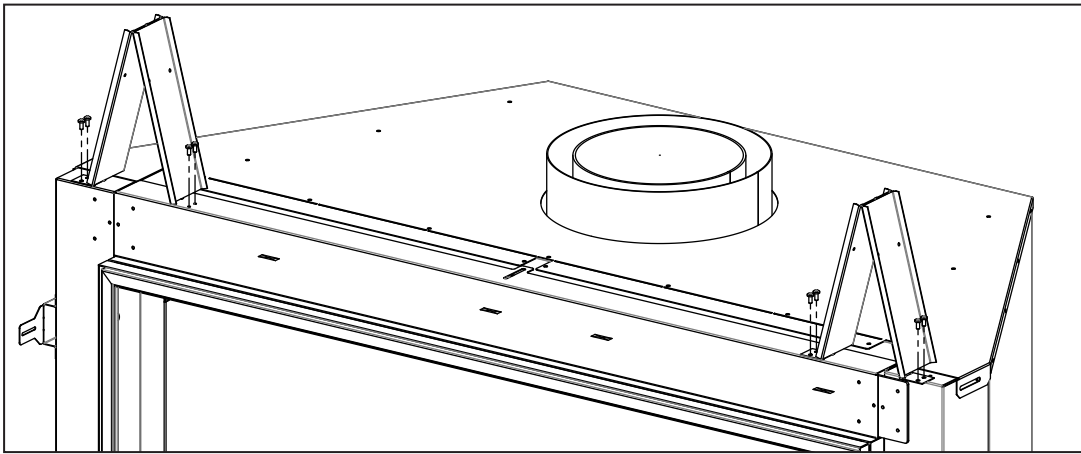

Figure 32: Top Standoff Install
2. Install top standoffs into position using supplied T-20 screws (see Figure 32).